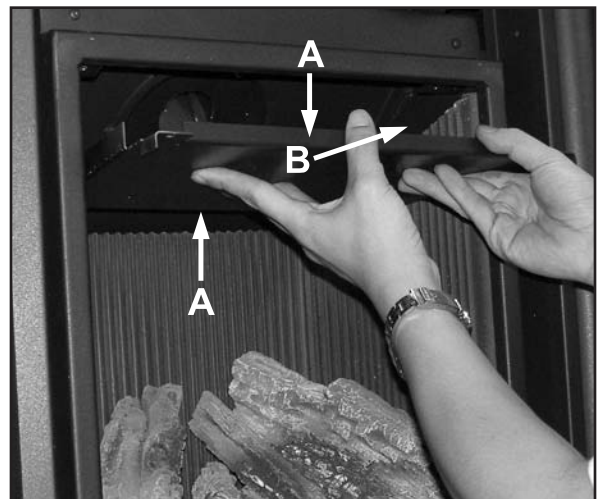

Figure 13: Firebox Baffle Removal.
3. Carefully push the back of the baffle up while pulling the front down (see A's in Figure 13) then pull the baffle out of the firebox.